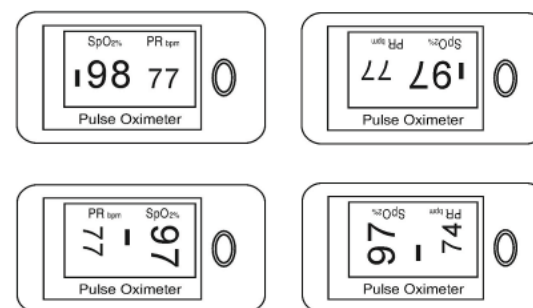

FIGURE 4
- The View O2 features a multi-directional readout screen, allowing the user to adjust the direction of the data readout for ease of use. To change the readout configuration, simply depress the on button until desired readout direction is reached. See Figure 4 for options.